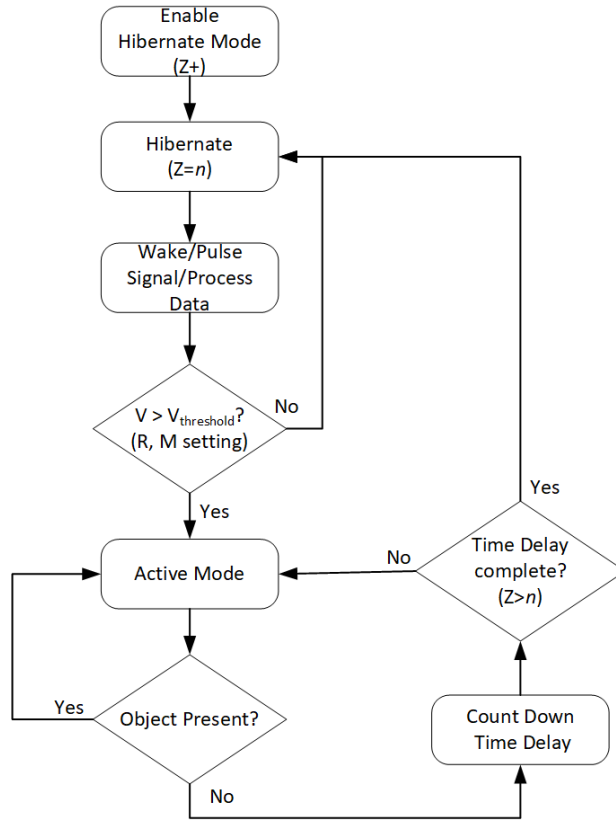

Figure 9. Hibernate Mode Operation
**Hibernate Mode (OPS243-A only)** – enables very low power (~150-250mW) duty cycle mode for battery-based applications. In Hibernate mode, the sensor shuts down internal power to the processor and RF for a time period set by the  $Z=n$  command. After time  $n$ , the sensor powers up, pulses a signal, processes the data and makes that data available. If filter values are set on speed ( $R>$ ,  $R<$ ), signal magnitude ( $M>$ ,  $M<$ ), or direction ( $R+$ ,  $R-$ ), the sensor will check to see if the processed data meets any of the threshold values and if so, will stay in active mode. It will continue in this manner until data does not meet the threshold settings at which time the sensor will stay active for  $Z>n$  seconds before entering back into Hibernate mode. Figure 9 shows graphically this process.